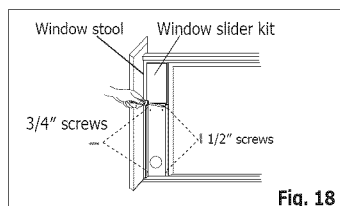

Fig. 18
3. Close the sliding sash securely against the window slider kit. (Fig. 18)
4. Drive two 1/2" screws to secure the window slider kit to the window sash. (Fig. 18)
5. Drive two 3/4" screws to secure the window slider kit to the window stool. (Fig. 18)